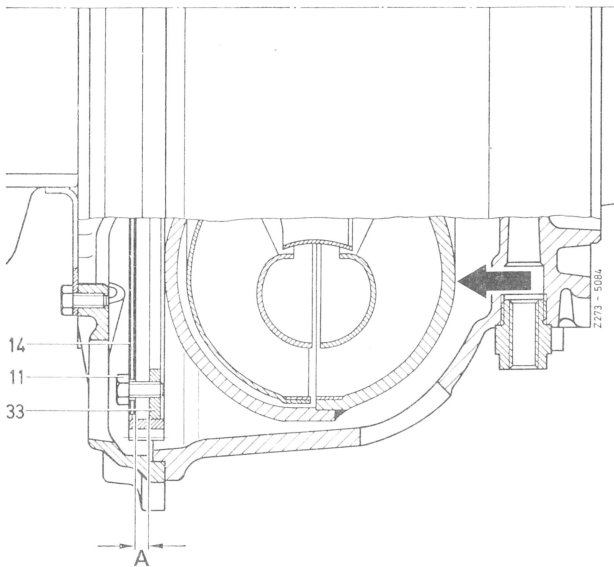

Fig. 19
34 Push torque converter forward (arrow in Fig. 19) by applying a screw driver through the venting slot to cancel distance "A".
35 Screw-in the six hex. bolts (11) M 8 x 14 (12 K) and tighten to 42 Nm (4.2 kpm) (Fig. 19).